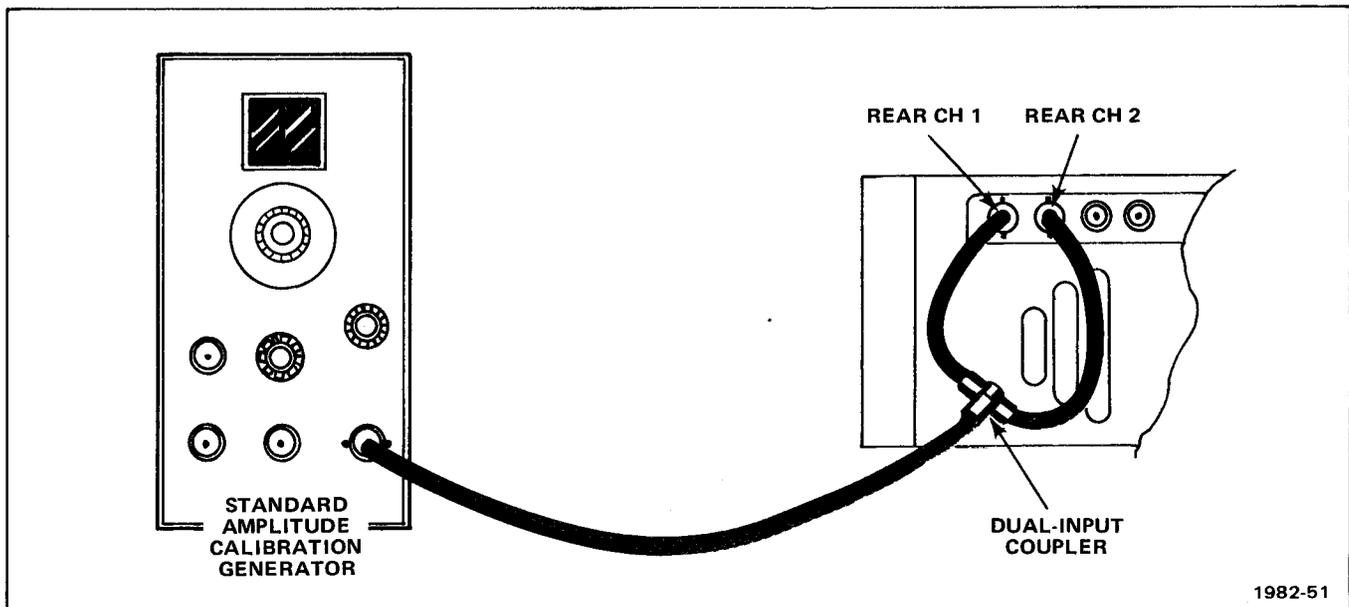

Fig. 3-2. T922R rear input test setup.
b. Connect test equipment as shown in Figure 3-2.
- a. Disconnect BNC cable from dual input coupler and connect it to rear-panel EXT TRIG or X input (see Fig. 3-2).